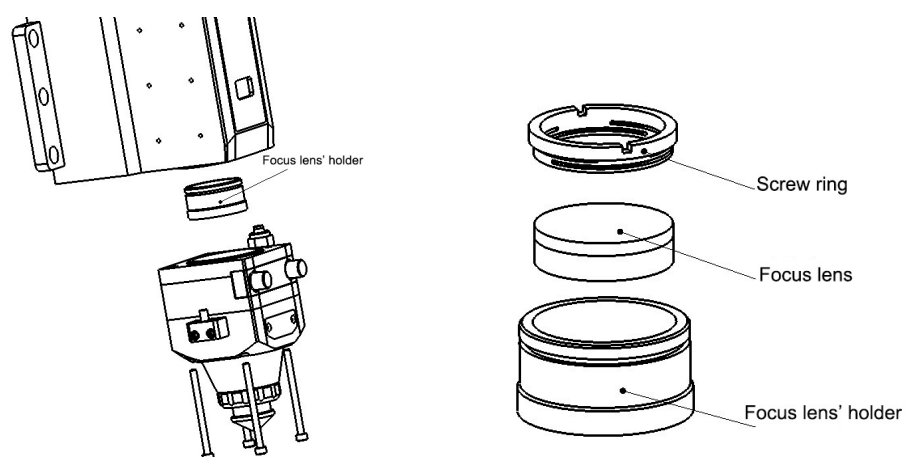

Figure 16. Focus lens with lens' holder.
- (1) Disassembly the cutting head and clean up all the dust on the surface of the head in a clean place;
- (2) Loosen all the screws of the focus lens unit showed in figure 16 by hexagonal screw driver in 4mm, and kindly suggest you use masking tape to cover the part connecting with focus lens for preventing dust coming inside;
- (3) Take out of the focus lens with lens' holder by optics resemble tools and then take out of the screw ring and focus lens by the same tool;
- (4) Clean or change the focus lens;